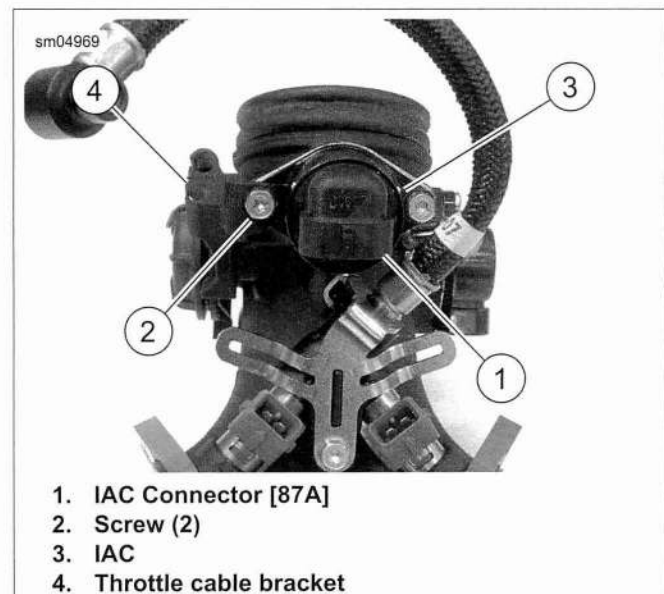

Figure 4-53. IAC Removal/Installation: XR 1200X
3. See Figure 4-53. Unplug harness connector [87B] from IAC connector [87A] (1).